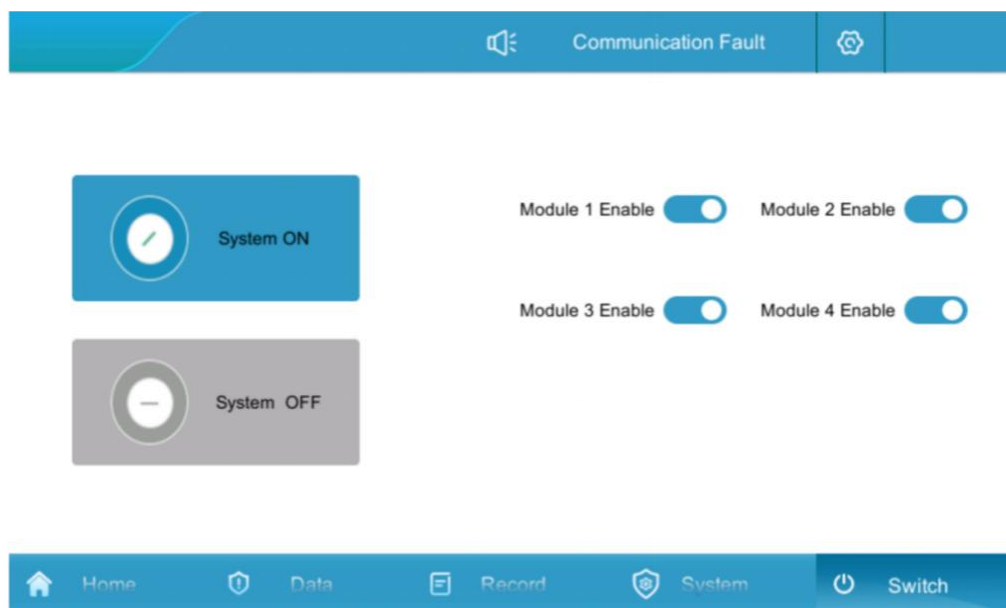

Figure 6.2-2
6. PCS/DC Module shutdown: When your PCS/DC module is in operation, please click the "Module Enable" of the PCS/DC to turn off the module, as shown in Figure 6.2-2.